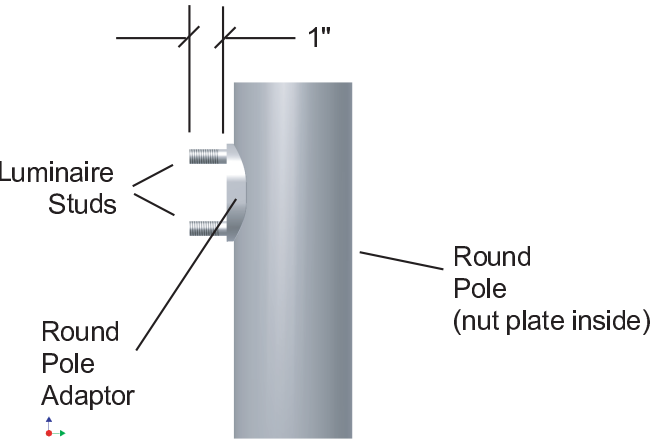

FIGURE 5
B. DIRECTLY TO ROUND POLE - FIGURE 5
- 4. With nut plate inside pole, thread luminaire mounting studs thru round pole adaptor, then thru top and bottom pole holes, then into nut plate. See Figure 5.